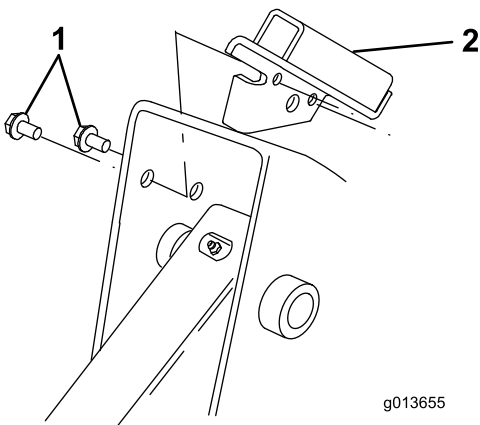

Figure 5
3. Align the tab on the shield bracket with the front edge of the frame with the bracket inside of the loader arm pocket (Figure 5).
Note: There is a right and left bracket. Ensure that you install the correct bracket on each side. The tab should be over the frame edge and the bracket should be inside the loader arm pocket with the 2 smaller holes in the bracket lined up with the holes you drilled in the frame (Figure 5).
- Secure the bracket to the frame with 2 self-tapping screws as illustrated in Figure 5.